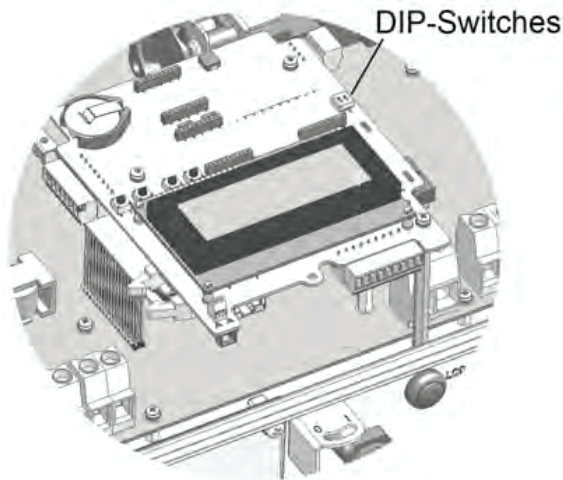

Figure 27: RS485 termination switch on the inverter communication board
- Inverter communication board (*Figure 27*):